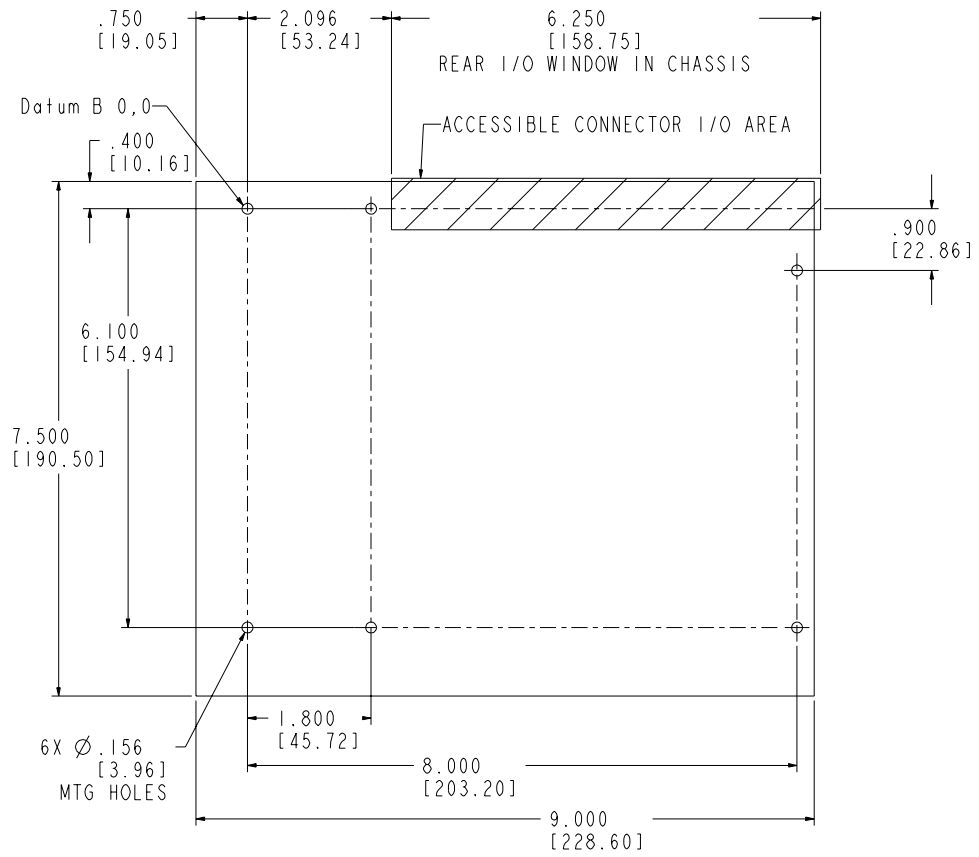

Figure 2. Example FlexATX Layout Diagram
- Figure 2, the example layout diagram, shows the exact location (dimensions) of the mounting holes for FlexATX boards.
Motherboard: The board design can incorporate any combination of the FlexATX mounting holes shown in Figure 2 if a given board design is smaller than the 9.0 x 7.5-inch [229 x 191 mm] maximum size.
- For details about mounting holes and board sizes, see Figure 2.